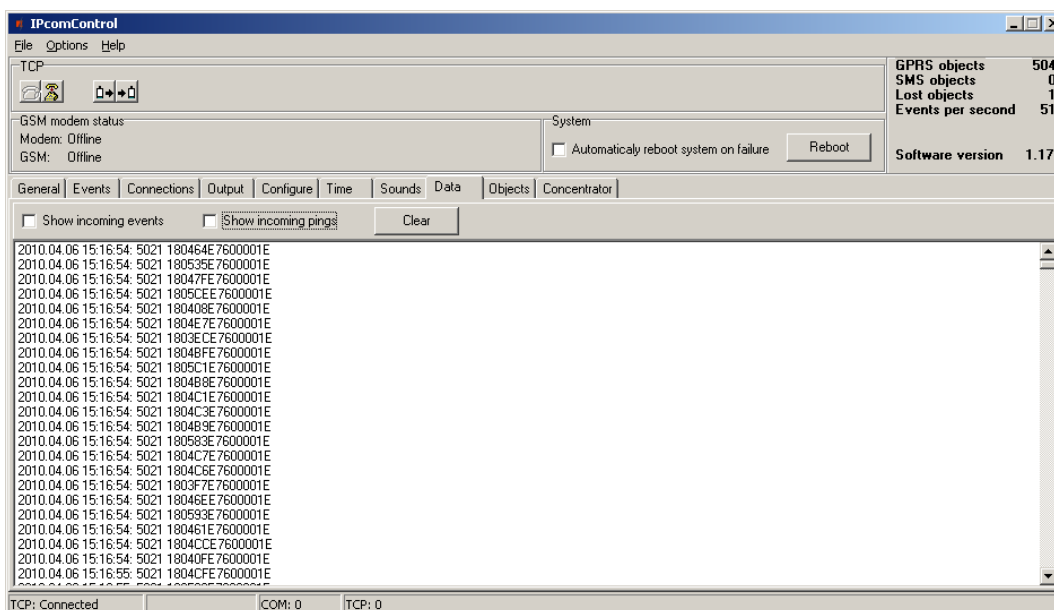

Figure 18.
8.16 In the **Data** tab (Fig. 18) received information is shown.